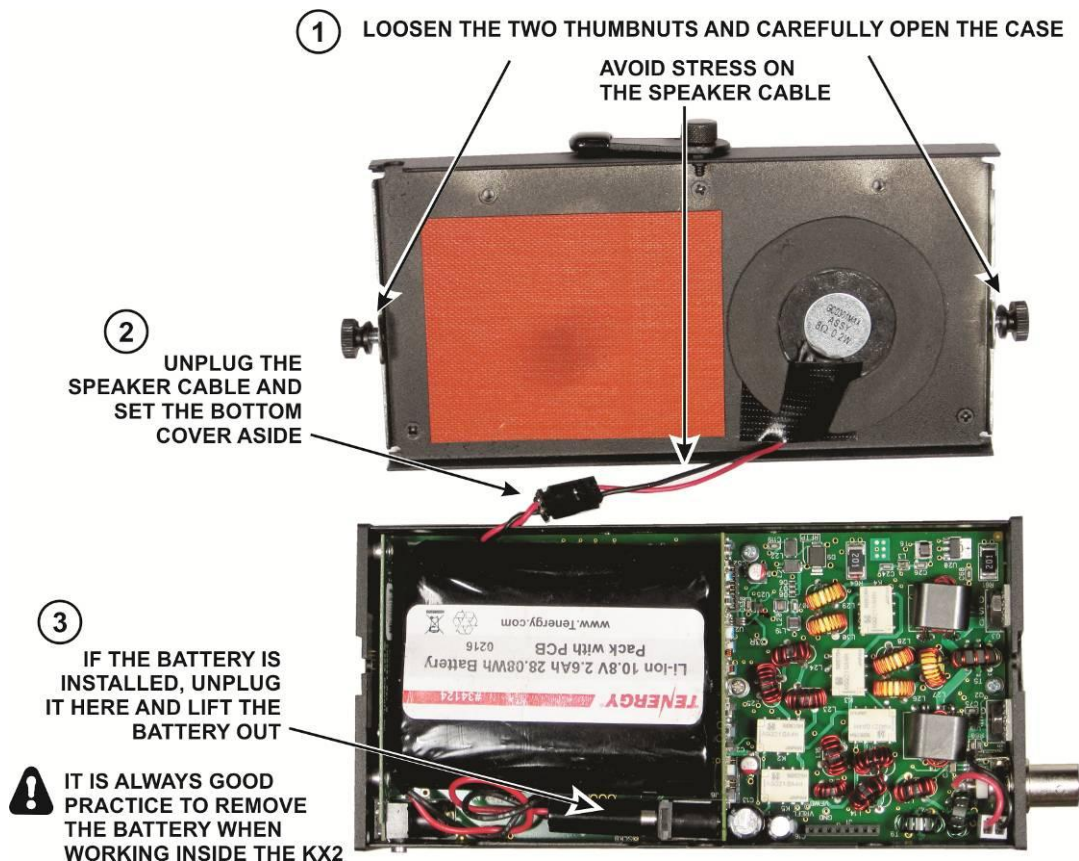
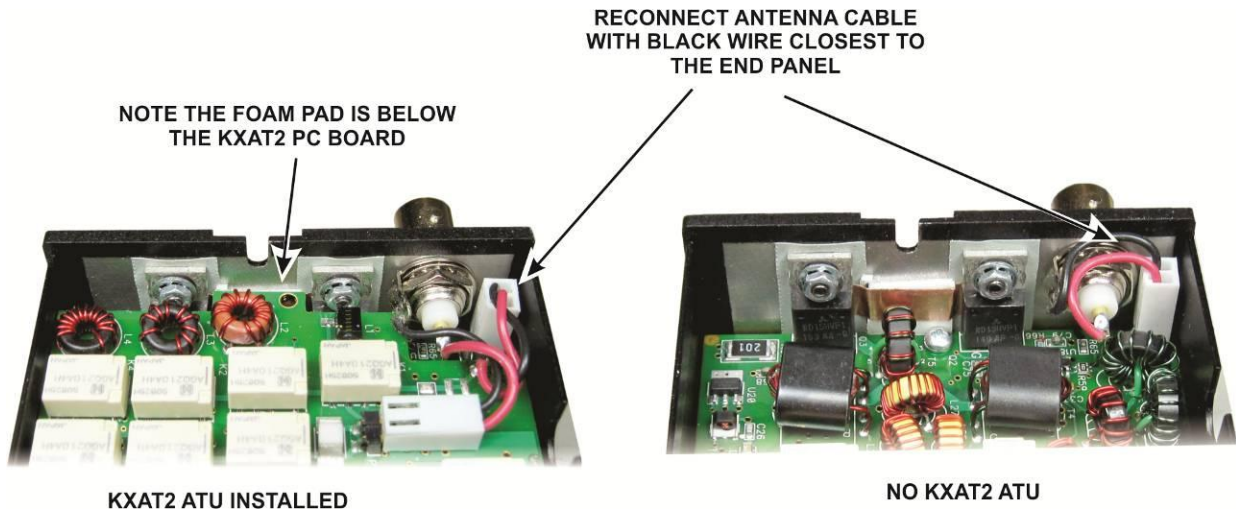

Figure 1. Opening the KX2.
Figure 7. Completed Modification.
You can check to see if the modification is installed by opening the case as if you were changing the battery (see Figure 1 on page 2). Inspect the transistors mounted on the end panel near the antenna connector (see Figure 7 on page 5). If the thermal insulator is present between the transistor heat sinks and the end panel, or if you can see a copper strip connecting the two heat sinks (when no KXAT2 is installed) the modification has been done.
2. Thin nose (1/8" or 3 mm) pliers to hold nuts with limited clearance space (see Figure 7, page 5).
- With the KX2 face down, loosen the two thumb screws and carefully remove the bottom cover as shown in Figure 1. Take care to avoid pulling on the cable leading to the speaker.
- Be sure the hardware is tightened to ensure the transistor heat sinks are in firm contact with the thermal insulators and the antenna connector is reattached to either the RF board if KXAT2 or to the KXAT2. The completed installation is shown in Figure 7.
- Replace the battery (if installed) and close the case (see Figure 1 on page 2).